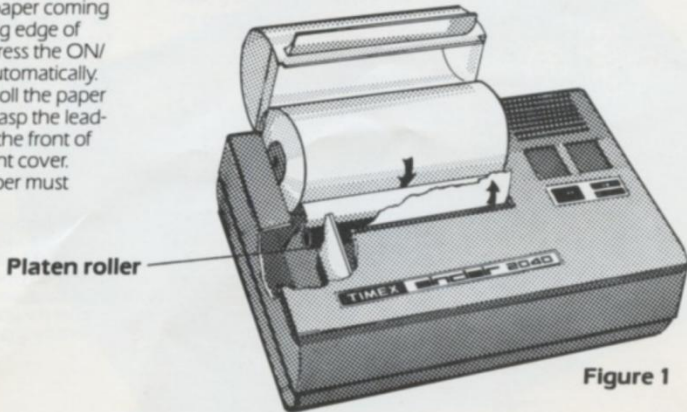

Figure 1
Figure 1 illustrates the major components of the printer. The paper cover (1) is hinged to permit a roll of paper to be loaded and positioned.
Paper loading may be easily accomplished by following the steps shown in **Figures 1, 2** and **3**.